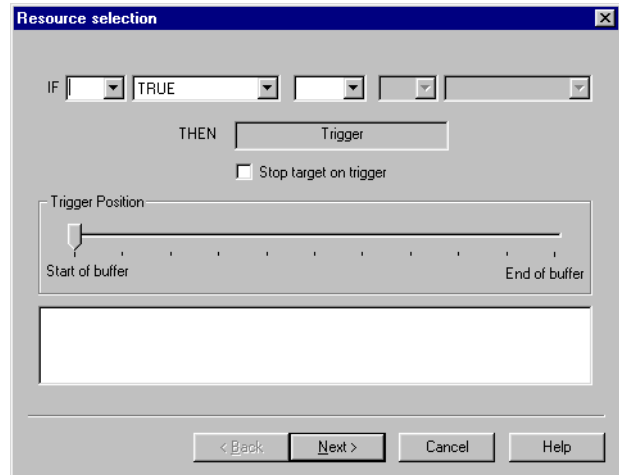

Figure 8-32 Resource selection for Trigger
1. Double-click **Trigger** in the Actions list to define a rule. The Trigger Resource selection dialog box shown in Figure 8-32 is displayed.